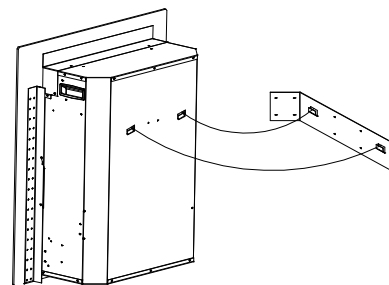

Fig. 2
4. Take out the hanger from the fireplace by unscrew the screw. Referring to Fig.2 in right.